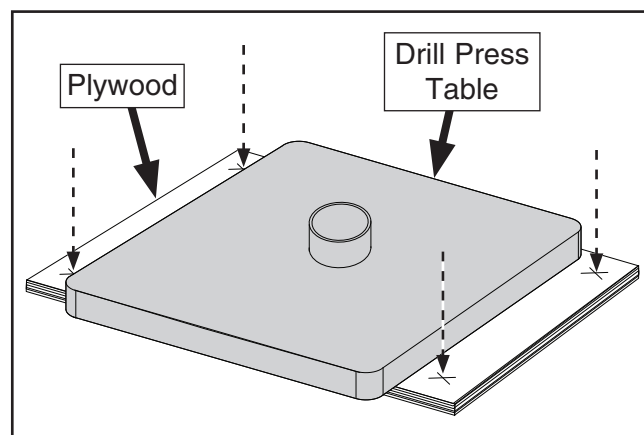

Figure 15. Model T32710 table mounting hole locations on plywood.
10. Remove drill press table from drill press and place it facedown on plywood on workbench or table (see **Figure 15**).
11. Mark and drill (4) $\frac{9}{16}$ " mounting holes through plywood around edges of drill press table (see **Figure 15**).